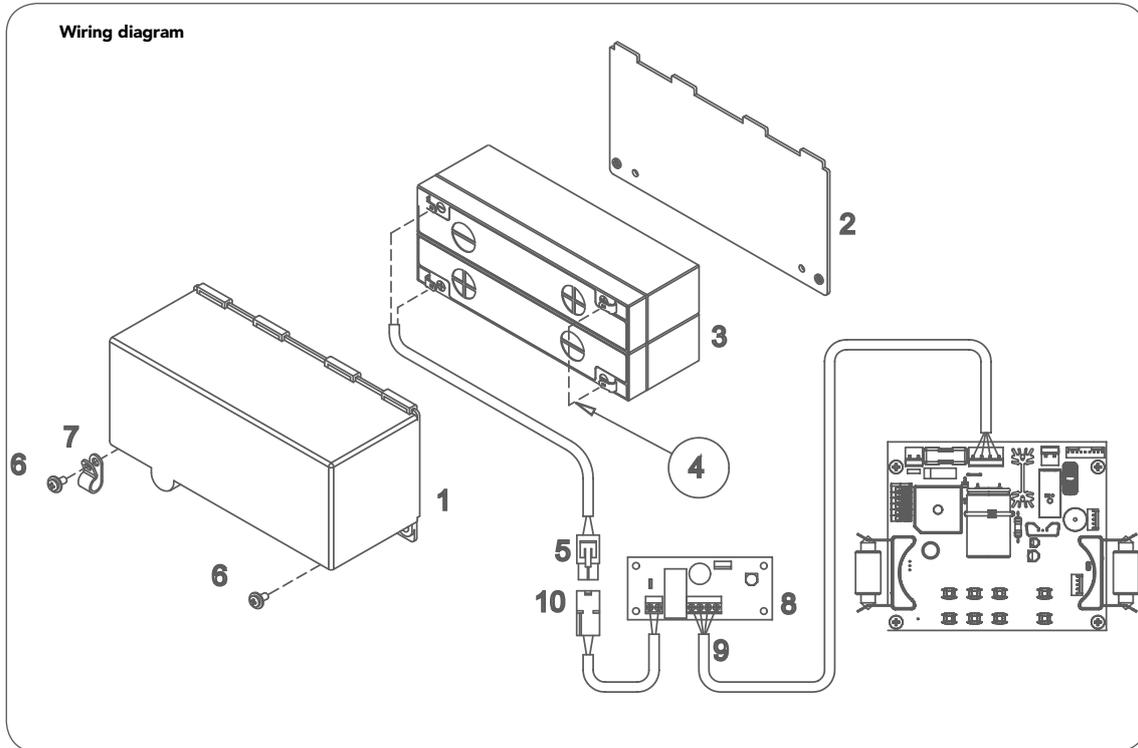

fig 06
- g. Connect battery harnesses 5 and 10 together (Fig 06).